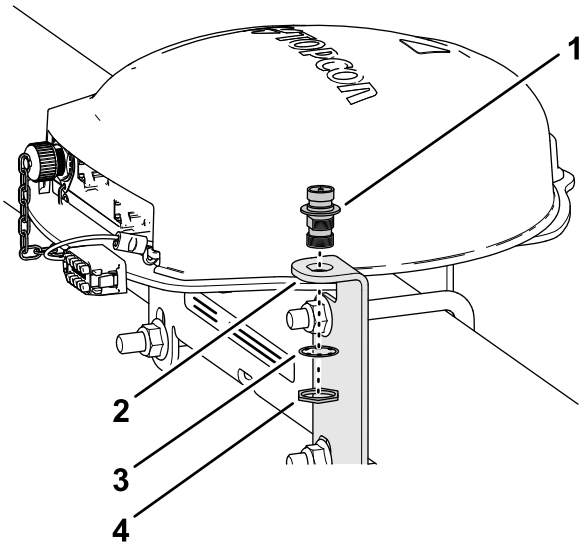

Figure 153
1. Align the coaxial coupler through the opening in RTK-antenna bracket with the bulkhead threads of the coupler down (Figure 153).
- Assemble the coaxial coupler to the antenna bracket with the lock washer and jam nut, and tighten the jam nut by hand (Figure 153).